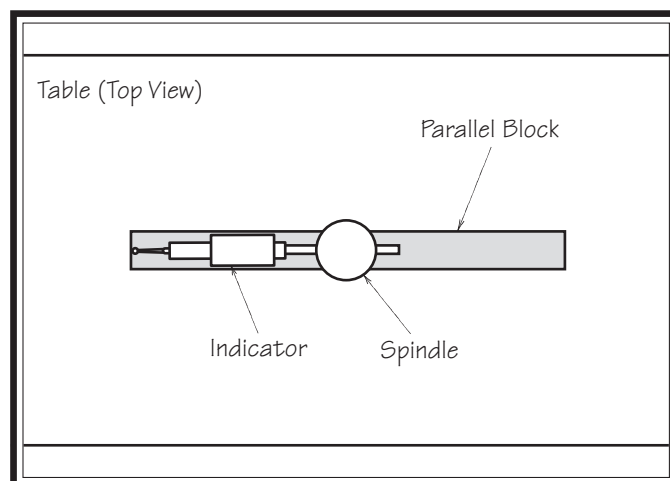

Figure 27. Parallel block positioned for the X-axis measurement (top view).
5. To measure spindle alignment along the X-axis, place the parallel block directly under the spindle and indicator across the length of the table, as illustrated in **Figure 27**.
6. Rotate the spindle by hand so that the indicator point rests on one end of the parallel block, as illustrated in **Figure 27**, then zero the dial.